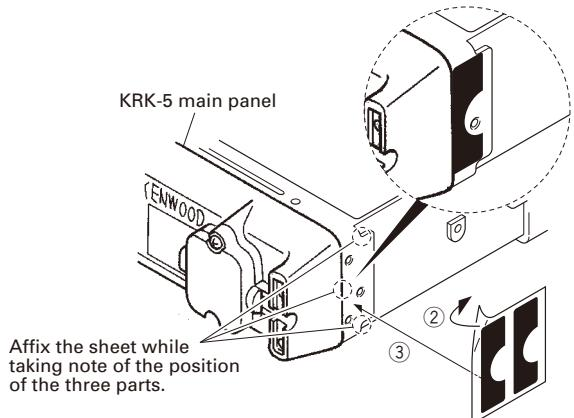

Fig. 2-1-2
4. Affixing the sheet (G11-4379-04) for the waterproof (Fig.2-1-2).
- (1) Remove the covering paper of the sheet ②.
- (2) Affix the sheet while taking note of the position of the three parts as shown in Fig.2-1-2 ③.
- (3) Repeat step (2) to affix the sheet to the other side of chassis.